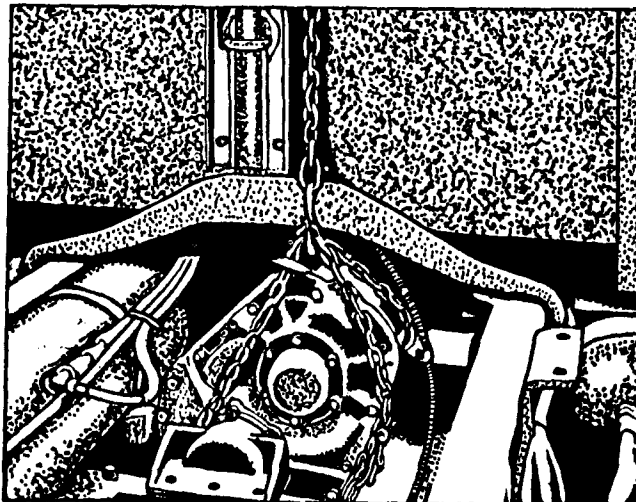

Figure 59-Lifting Transfer Case on Hoist
- g. Position Hoisting Chain. Wrap a chain around the idler shaft rear bearing cap and the main shaft front companion flange. Attach this chain to a hook on the hoist, and lift a sufficient amount to cause a slight strain to permit of the removal of the mounting brackets. (Fig. 59).